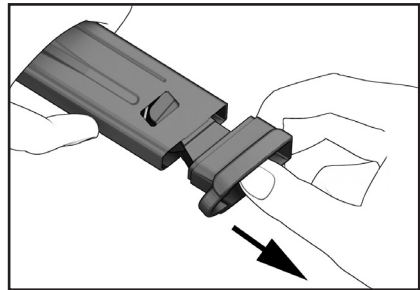

Figure 37
3. With the locking insert detent still depressed, squeeze the floor plate locking tabs located on the right and left sides of the magazine (see Figure 37).